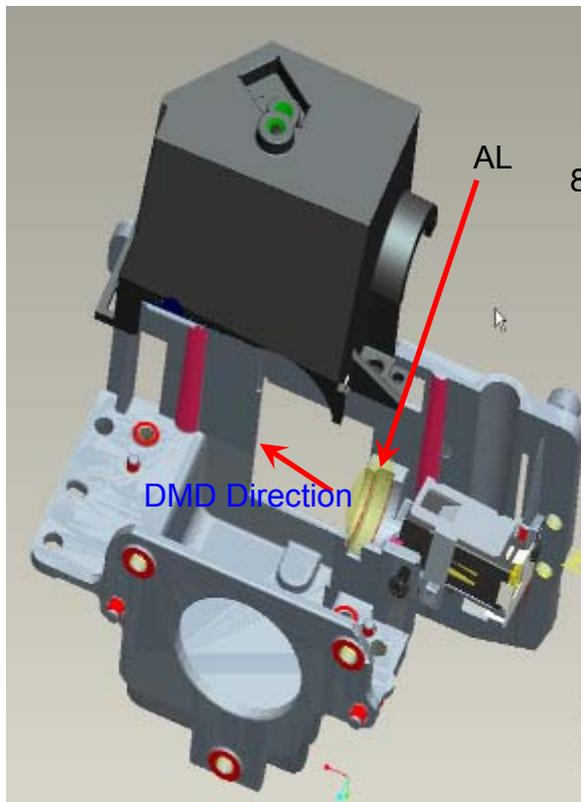

Fig. 7-1
- 7.1 Placed "AL" on the "HSG DMD". The "raised surface" of "AL" shall toward "DMD direction" (Fig. 7-1).